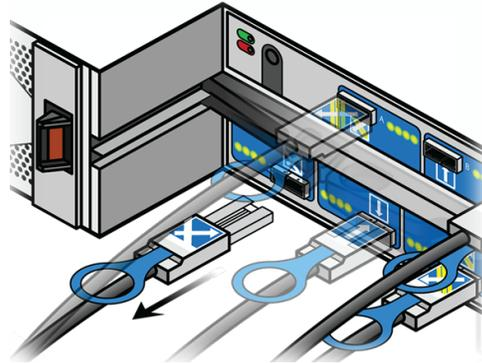

Figure 5-5. Removing a SAS Cable (Storage Shelf)
1. At the storage shelf end of the faulty cable, pull the blue tab on the connector to release the latch. See Figure 5-5.